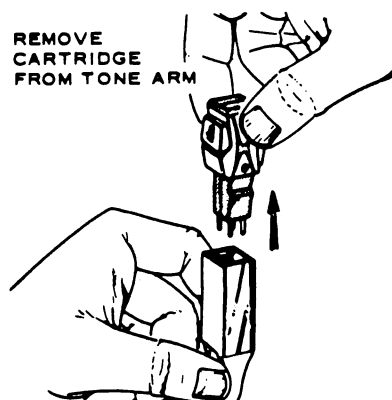

Figure 21A. Cartridge Removal
3. Remove cartridge from tone arm by pulling "up" on cartridge (support tone arm with one hand), see Figure 21A.